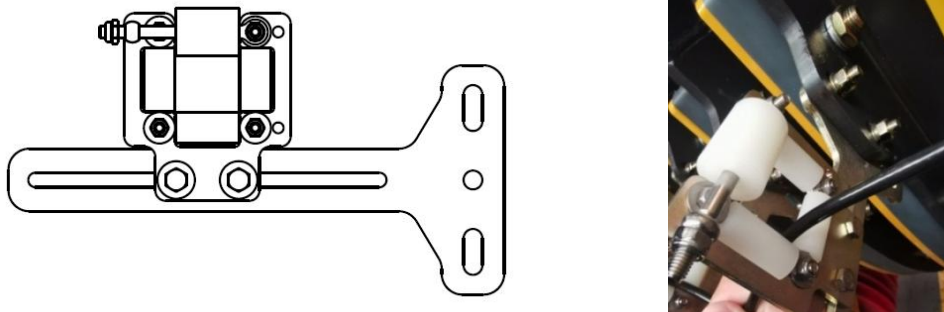

Figure 4.3-11
- Usually a guide wheel is installed on each section of the boom. The distance M between the center of the long angle sensor reel and the center line of the boom and the distance M1, M2, M3 and M4 between the center of the guide wheel and the center line of the boom at each level should be equal. As shown in Figure 4.3-11,  $M=M1=M2=M3=M4$ .
- In addition to the first level guide wheel, the other levels of guide wheel is recommended to use the frame type pressure wheel shown in Figure 4.3-11. In order to prevent the roller from pinching the line, the pressure wheel without chamfer on the roller should be used, and the big wheel is located above.